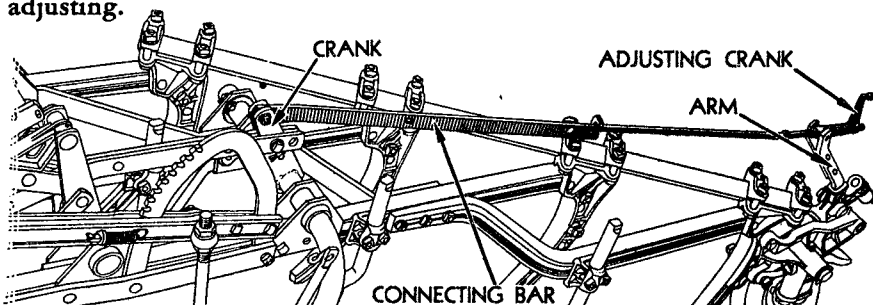

FIGURE 10—CONNECTING BAR
8. **CONNECTING BAR.**—Attach connecting bar to land axle crank and to the rear wheel arm. (Figure 10.) See operating instructions for adjusting.